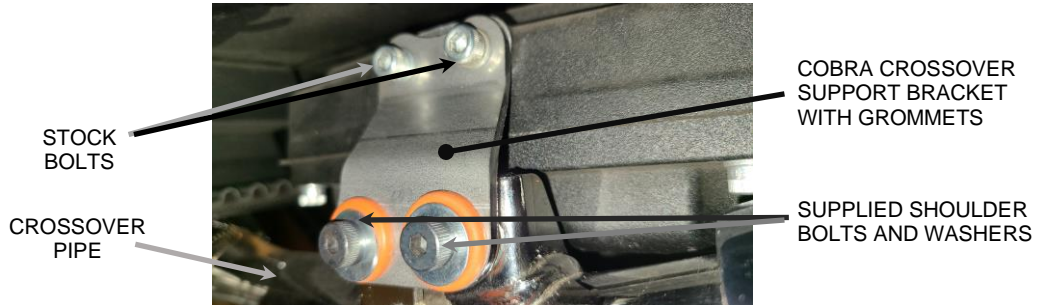

FIGURE 7
15. Apply blue Loctite on the (2) stock allen bolts, install them along with (2) stock washers into the mount bracket upper holes and transmission, lightly snug the bolts but **DO NOT TIGHTEN** at this time, see **Figure 7**. Adjust the crossover pipe fore and aft so the mount with grommets rest flush against the rear of the transmission case. **IMPORTANT: DO NOT** force the crossover pipe forward or backward or up and down to get it into position. If a lot of force is needed to align the crossover pipe and support bracket then adjust the rear headpipe collector assembly until it will align with only enough force to counter act the weight of the left side of the crossover assembly. Also, make sure the crossover pipe has clearance all around and does not make contact with the transmission pan. Adjust as needed while bolts are loose.
16. Reinstall the left side muffler onto the crossover headpipe and reinsert the (2) stock 5/16-inch bolts into each rear muffler mount. **Do not tighten** clamps or bolts.
17. Make sure the front headpipe, rear headpipe, left rear crossover pipe, and mufflers are aligned properly and tighten the (2) crossover support bracket shoulder bolts, then proceed to tighten the (2) previously installed stock allen bolts in the transmission case to factory specification. See **FIGURE 7**.